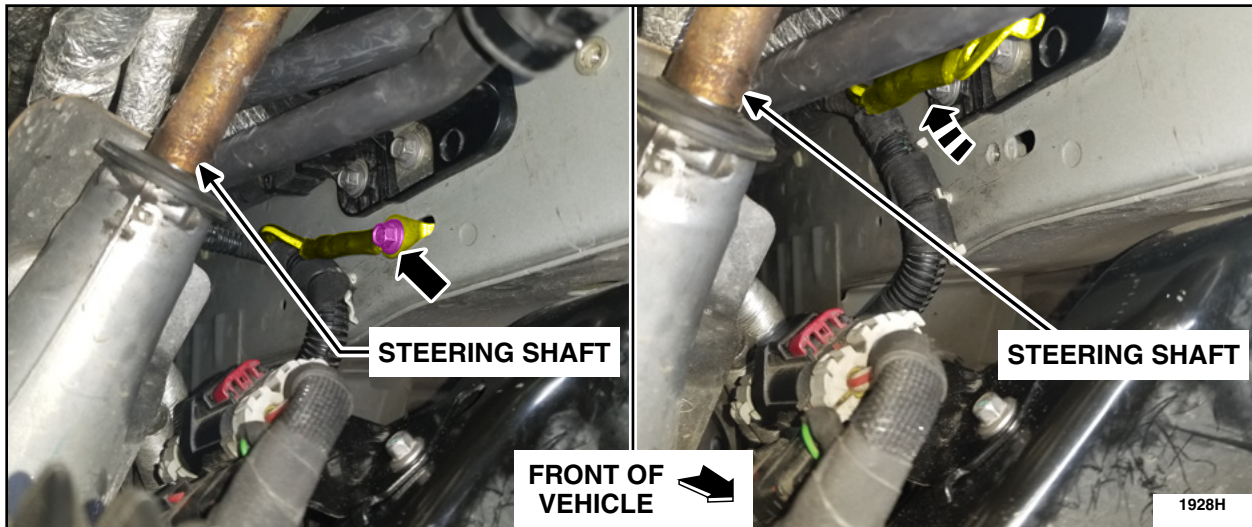

FIGURE 8
10. Remove the ground wire retainer, located on the front LH side of the vehicle between the steering shaft and the frame, and position the ground wire aside. See Figure 8.